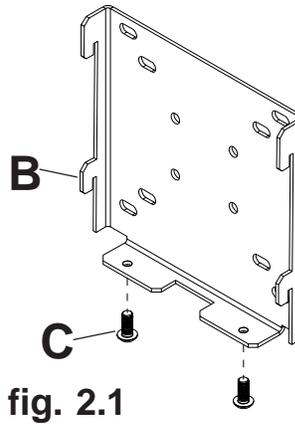

fig. 2.1
- 2** Thread M5 phillips screws (C) to hook bracket (B) making the screws flush with bracket as shown in figures 2.1 and 2.2.